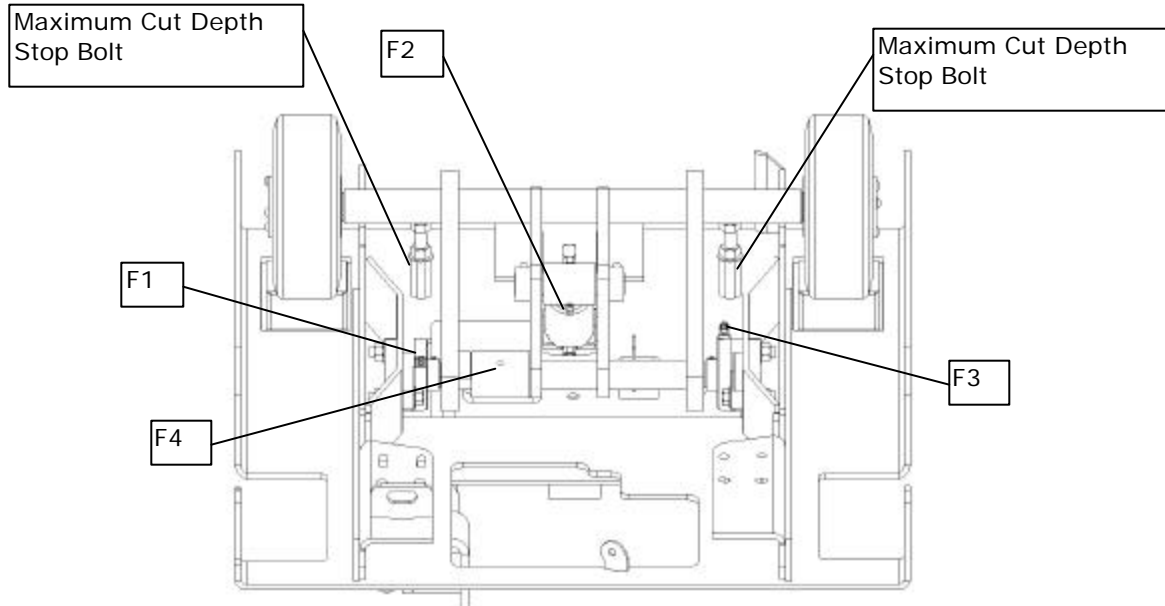

Fig. 35 — Grease Fittings and Maximum Cut Depth Stops (view from back of saw)
2. Fully lower the saw onto the Stop Bolts (see Fig. 35).